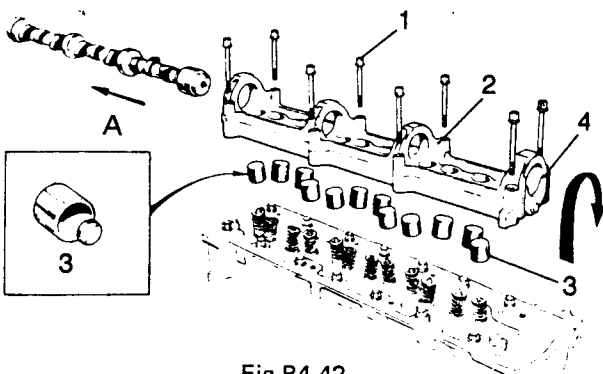

Fig B4.42
- (4) Refer to Fig B4.42. Evenly slacken the camshaft carrier bolts (1) in a diagonal sequence until the valve spring pressure is released.
- (5) Remove the camshaft carrier bolts.
- (6) Raise the camshaft carrier (2) sufficiently to allow the followers (3) to clear the engine valves.
- (7) Push the followers into the camshaft carrier until they contact the camshaft.
- (8) Continue to remove the carrier assembly by easing it away from the cylinder head and quickly revolve it to prevent the followers from falling out.